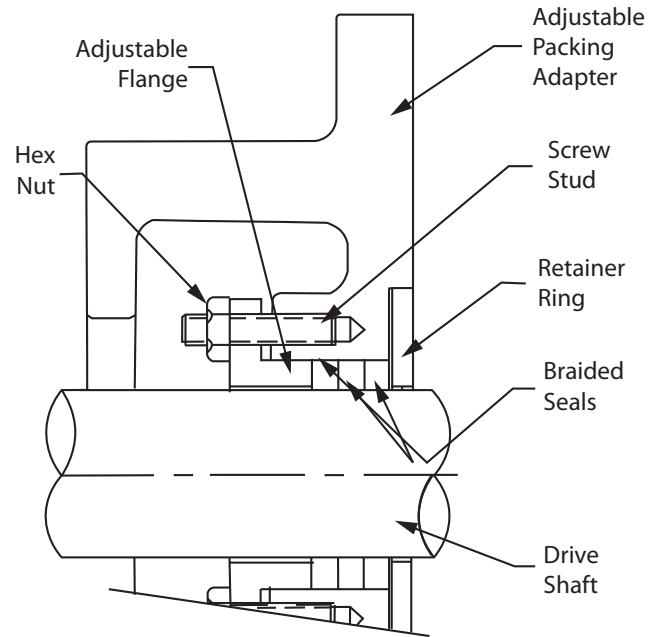

Figure 1 - Assembly
2. Position adapter on reducer output hub so that small end (end with 12 holes) rests on reducer. Select the 4 mounting holes to match the shaft used (Figure 1).
1. Use lifting tab to hoist screw conveyor drive into position. Slide shaft into screw and adapter over trough end studs. Only one set of adapter holes will fit over the trough end studs. If the mounted position of the screw conveyor varies more than 15° from any of the four horizontal mounting positions (Figure 1), an incorrect set of holes has been selected for coupling adapter to reducer. This can be corrected by removing adapter screws and rotating reducer to its proper position. Reinstall and tighten adapter screws to torque specified in Table 4. Install lockwashers and tighten nuts on trough end studs. Attach drive shaft to screw